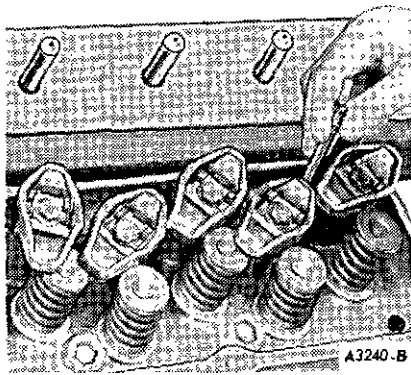

FIG. 41 Removing Valve Push Rod
3. Remove valve rocker arm covers. Remove rocker arm bolts, rocker arms, oil deflectors, fulcrums and push rods in sequence (Figure 41) so they can be installed in their original positions.